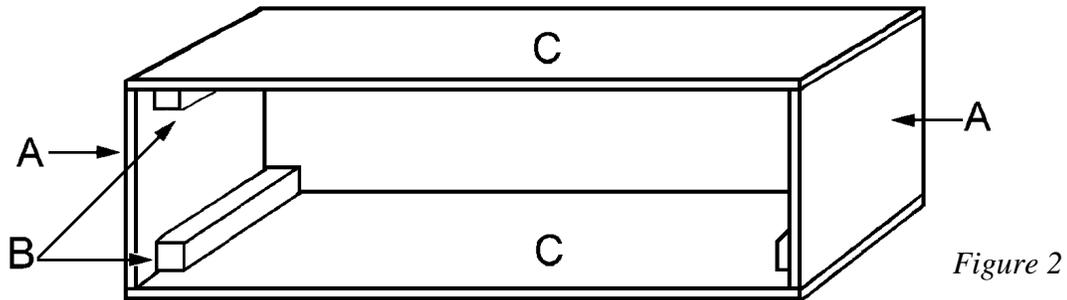

Figure 2
4. Repeat Step 3 to attach the remaining two corner supports (B) to the other side (A).
5. Cut two front/back pieces (C) from $\frac{3}{4}$ -thick plywood, each measuring 16-1/2 x 48 inches.
6. Place the two sides (A) opposite each other, with the 2-1/4" gap at the bottom of both sides (A). Glue and screw the sides (A) to the front and back (C), matching 16-1/2-inch edges, as shown in *Figure 2*. The front and back (C) should overlap the exposed edges of the sides (A). Use 2-inch-long screws placed about every 4 inches. Screw through the front and back (C) into the corner supports (B).